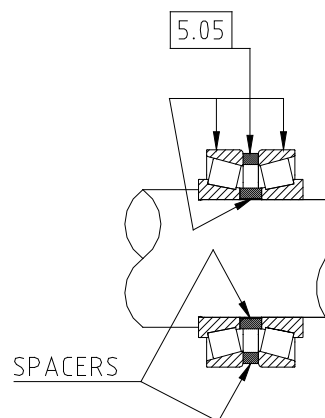

Figure 46
- Install bearings (6.02) complete with spacers (6.02) to shafts (5.01 and 5.02) ensuring correct positioning of all components as either removed in 4.3.3 above or as supplied as new replacement set, see Figure 46.
- Install lipseal (6.19) to gearbox (4.01). Install O-ring (5.22), spacer (5.18) and key (5.10) to drive shaft (5.01).